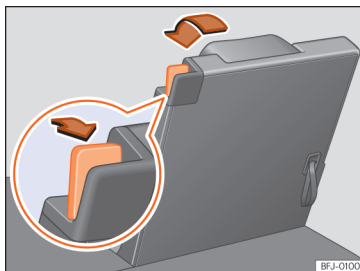

Fig. 122 Third row of seats: place in the cargo floor position.
- Pull the unlocking lever »» Fig. 122 to its rearmost position to unlock the seat backrest.
- Pull the cord on the backrest of the seat »» Fig. 122 to lift the backrest. **OR:** lift the backrest with your hand from the cabin.
- The red marking on the unlock lever »» Fig. 122 must not be seen.
- A red mark on unlock lever »» Fig. 122 indicates that the seat backrest is not engaged. If the back rest is locked correctly, the mark is not visible.